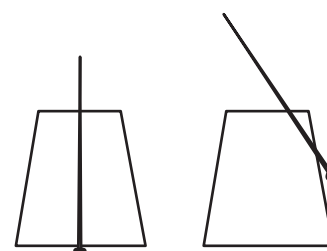

Figure 1.
1. Push the pin through the cork so that the pin head is flush with the cork. If the pin is large enough, try to go through the center. If this is hard to do, try to insert the pin at an angle through the side and top of the cork (see Figure 1). *Note:* This setup will now be referred to as the “Food Holder.”